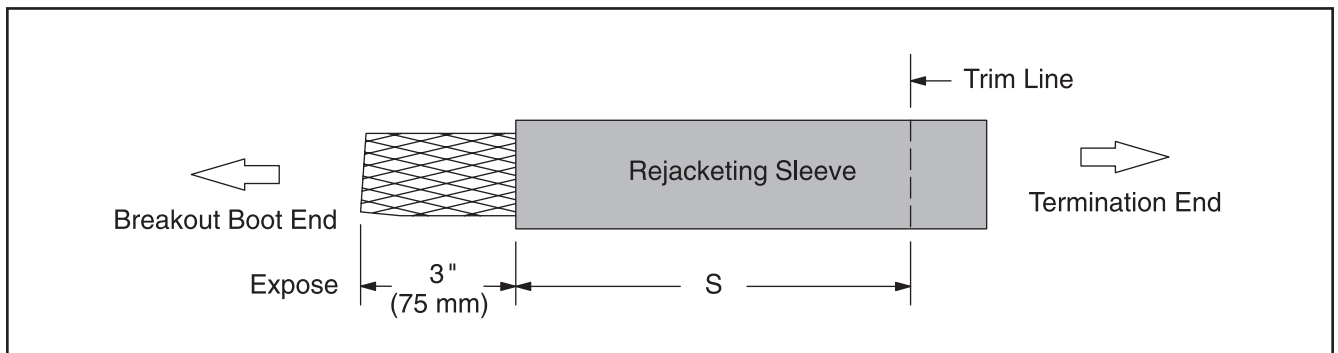

Figure 6
3.3 Using scissors, trim re-jacketing sleeve assembly to length required (Distance "S" Figure 6). Cut tubing and inner braid together.